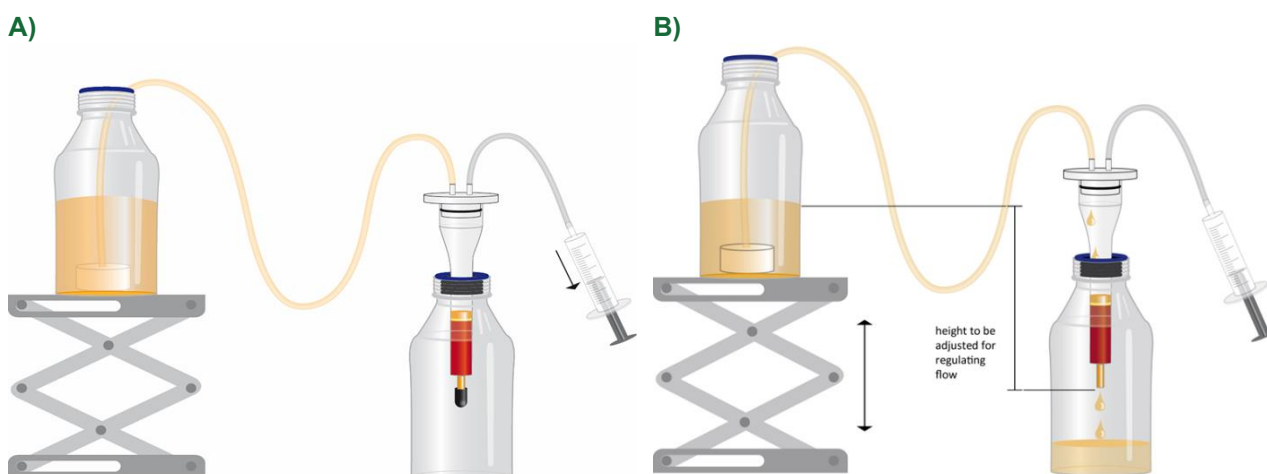

Fig 1: Assembly of the WET FRED and regulation of the flow speed.
- 4.1.7. Gently aspirate the sample with the 5 ml syringe until the column bed is overlaid with 0.5-1 ml of sample (see arrow, Fig. 1, A).
- 4.1.9. Regulate flow to approximately 1 ml/min by adapting height difference between column outlet and sample surface (see Fig 1, B). 20 drops equal approximately to 1 ml. 1 ml/min fits for all columns. In case of larger volumes, 5 ml and 10 ml columns can be run up to 3 ml/min. 15 cm height difference might be a good starting point, but please note that depending on the form of the selected container (small and high or wide and flat) the liquid level might change faster or slower by time and therefore the flow rate.